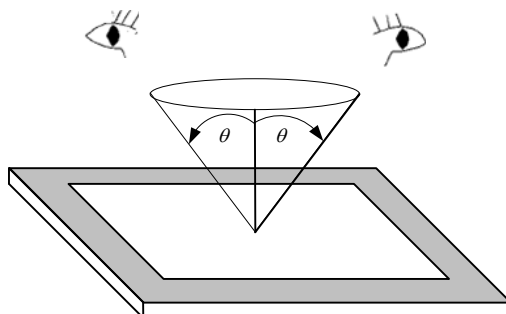

Fig. 11.1
- The viewing zone is defined with angle θ shown in Fig. 11.1 The inspection should be performed within 45° when display is shut down. The inspection should be performed within 5° when display is power on.